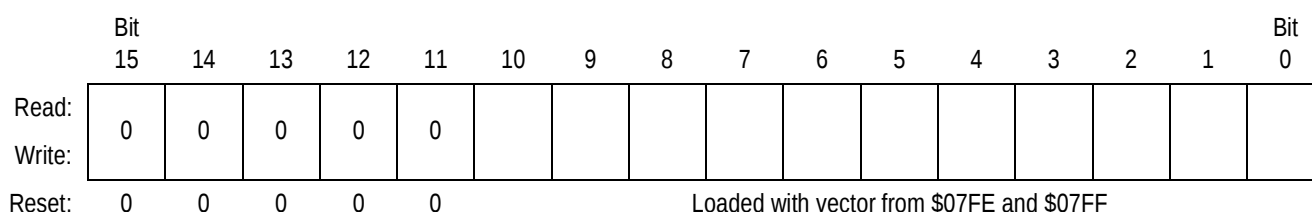

Figure 3-5. Program Counter (PC)
The program counter (PC) shown in Figure 3-5 is a 16-bit register that contains the address of the next instruction or operand to be fetched. The five most significant bits of the program counter are ignored internally and appear as 00000.